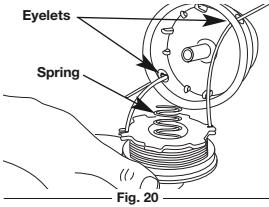

Fig. 20
- Insert the ends of the line through the eyelets in the outer spool and place inner reel with spring inside the outer spool (Fig. 20).
- Insert the ends of the line through the eyelets in the outer spool (Fig. 20).